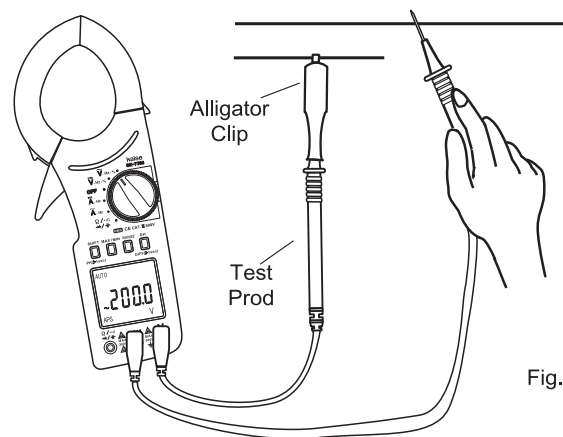

Fig. 4
6. Read the voltage on LCD. Refer to the Fig 4.